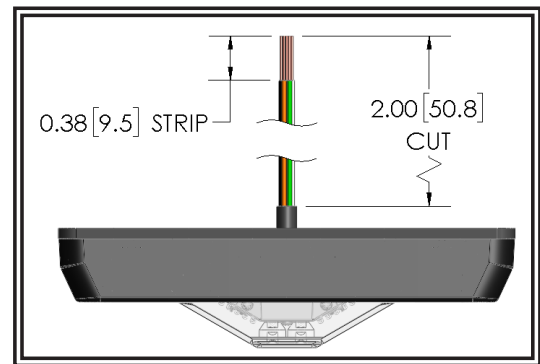

Figure 1
1. Cut wires back from the Lighthead (SEE CHART) and strip Orange, White, Black, Red, and Green wires as shown in FIGURE 1. Cut the Blue and Yellow wires back flush to jacket.